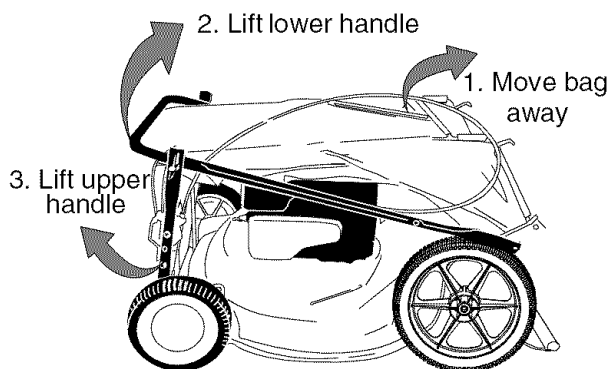
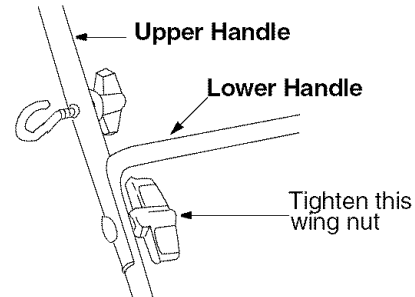

Figure 1
Figure 2
- Remove grass bag from the unit and set it out of the way. See Figure 1 (step 1).
- Raise the lower handle in the direction shown in Figure 1 (step 2) till it snaps into place.
- Raise the upper handle in the direction shown in Figure 1 (step 3). Tighten the wing nuts which are already on the handle. See Figure 2.